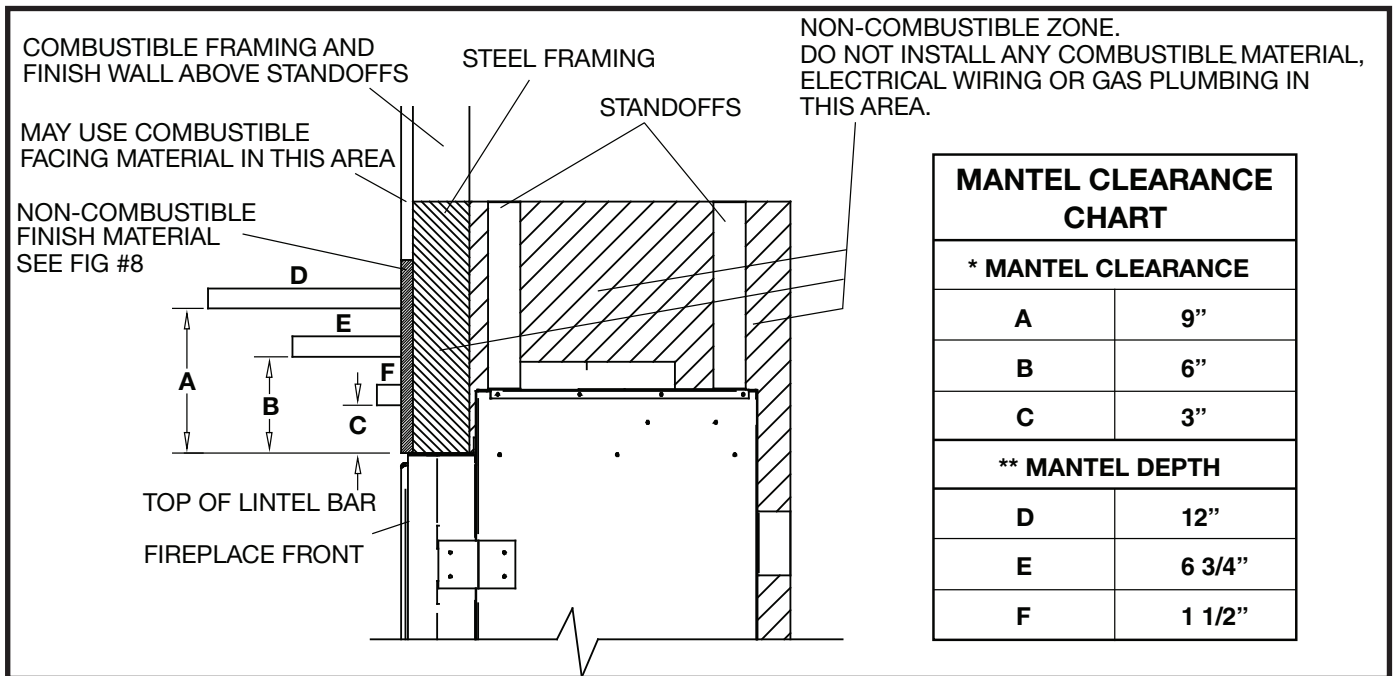
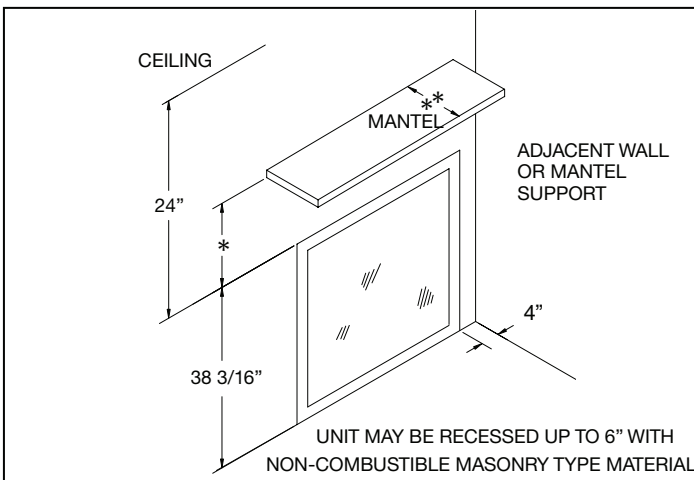

Figure 2: Mantel clearances.
Figure 3: Clearances.
**The minimum clearances from the fireplace to combustible surfaces must be adhered to and are shown in Figure 2 and Figure 3.**